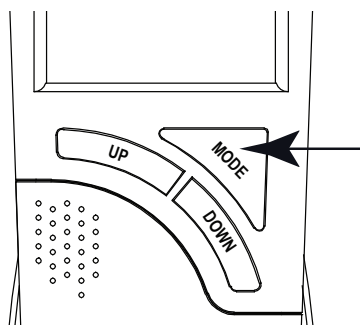
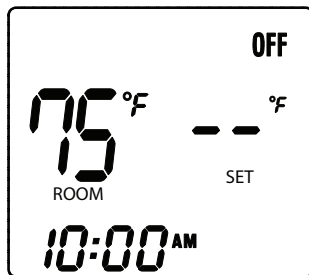

Fig. 3 Mode Button
Fig. 4 OFF Mode
To operate the transmitter, press and release the MODE button (Fig. 3) until the LCD screen reads OFF in the display (Fig. 4).
Step 3: Press the MODE button a third time to turn the appliance back OFF again as show in Fig. 4.